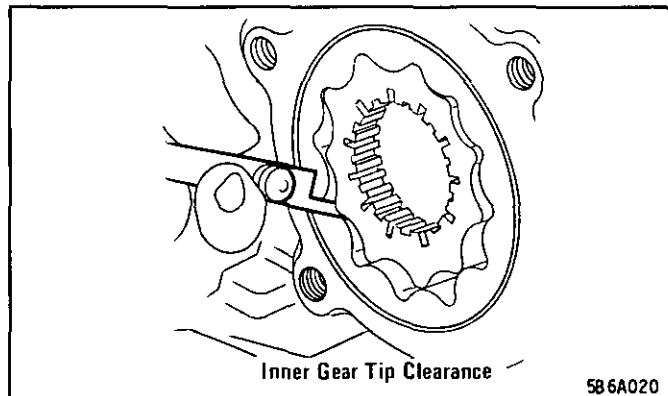

Figure 23 Inner Gear Tip Clearance-Gerotor
- Inner gear tip clearance. Max. .152 mm (.006"). See Figure 23.